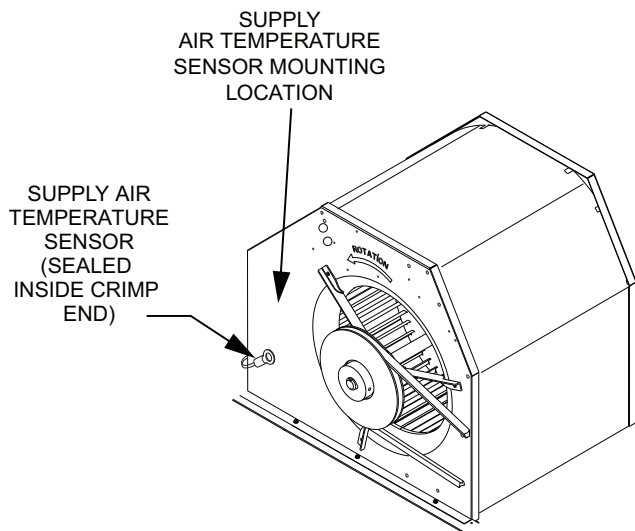
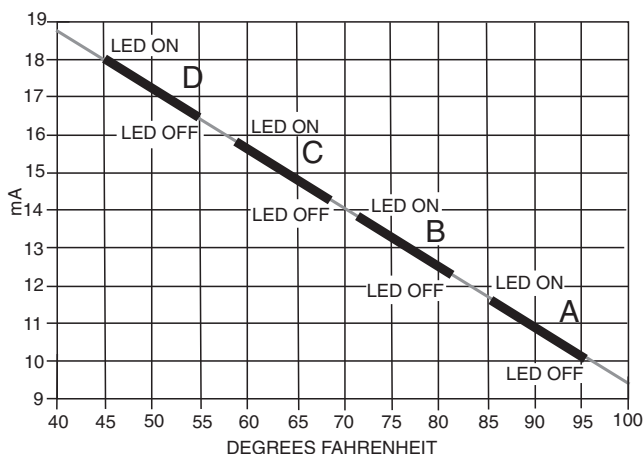

Fig. 47 — Supply Air Sensor Location
Fig. 48 — Outside Air Temperature Changeover Setpoints
The outdoor air temperature sensor (HH57AC074) is a 10 to 20 mA device used to measure the outdoor-air temperature. The outdoor-air temperature is used to determine when the EconoMi\$er IV can be used for free cooling. The sensor is factory-installed on the EconoMi\$er IV in the outdoor airstream. (See Fig. 47.) The operating range of temperature measurement is 40°F to 100°F (4°C to 38°C). See Fig. 48.
The supply air temperature sensor is a 3 K thermistor located at the inlet of the indoor fan. (See Fig. 47.) This sensor is factory installed. The operating range of temperature measurement is 0°F to 158°F (–18°C to 70°C).
3. Ensure that the factory-installed jumper is in place across terminals P and P1. If remote damper positioning is being used, make sure that the terminals are wired according to Fig. 48 and that the minimum position potentiometer is turned fully clockwise.